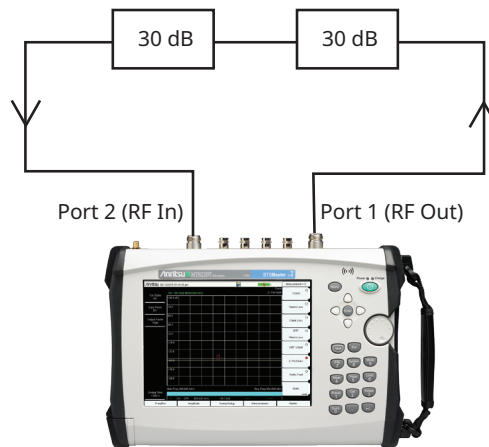

Figure 8: Measurement of Attenuators
- Connect in attenuators A_1 and A_2 as shown in Figure 8